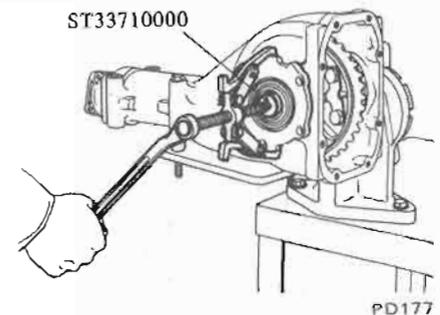

Fig. PD-6 Removing side retainer
2. Remove side retainers, using Gear Carrier Side Retainer Attachment ST33710000 and standard puller. See Figure PD-6.